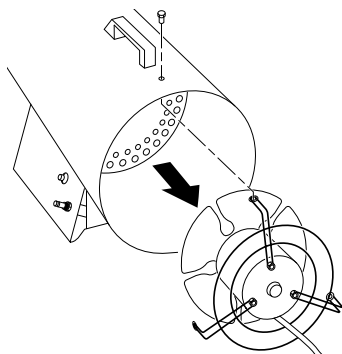

Figure 6 - Removing Motor and Fan Guard from Heater
2. Remove motor and fan guard from heater shell (see Figure 6).